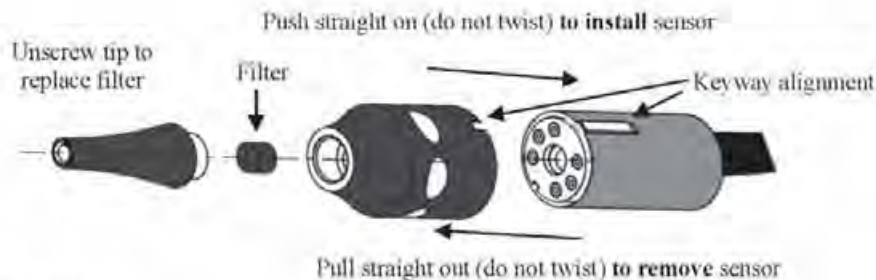

Figure 2
**Sensor replacement:** Remove sensor by pulling out of socket. Install the new sensor by aligning the notch in the sensor cover with the raised keyway on the sensor socket holder (see Figure 2).